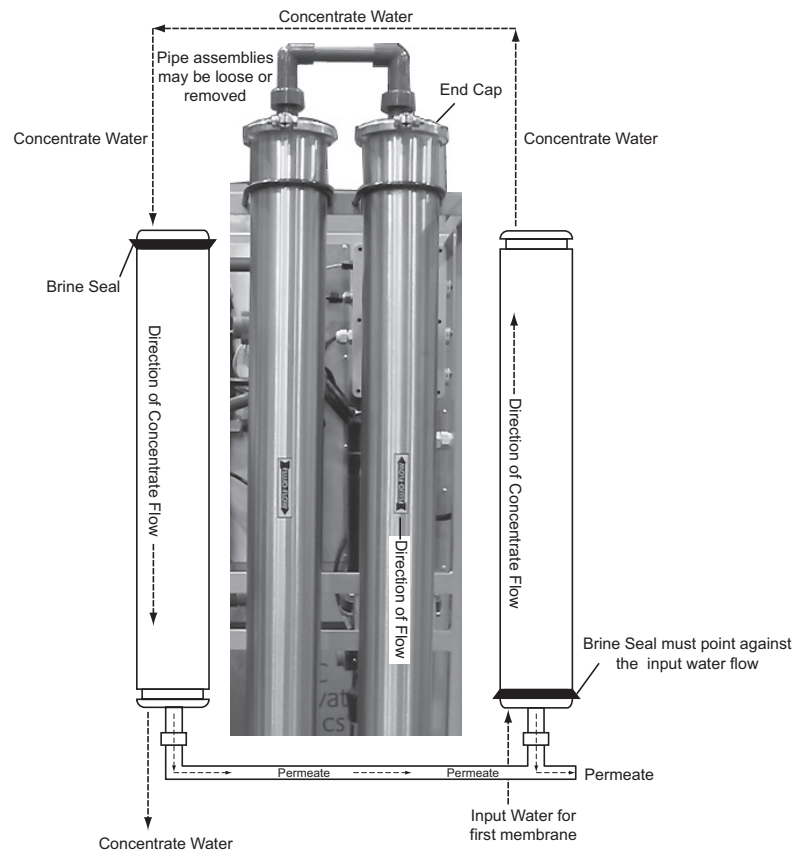

Figure 5 Position of Membranes
3. Load membranes into pressure vessels according to the concentrate flow direction. Note the position of the brine seal placement on the membrane (Figure 5). Each housing has an arrow indicating the direction of flow for that housing (Figure 5). The brine seal must be at the water inlet of the housing.